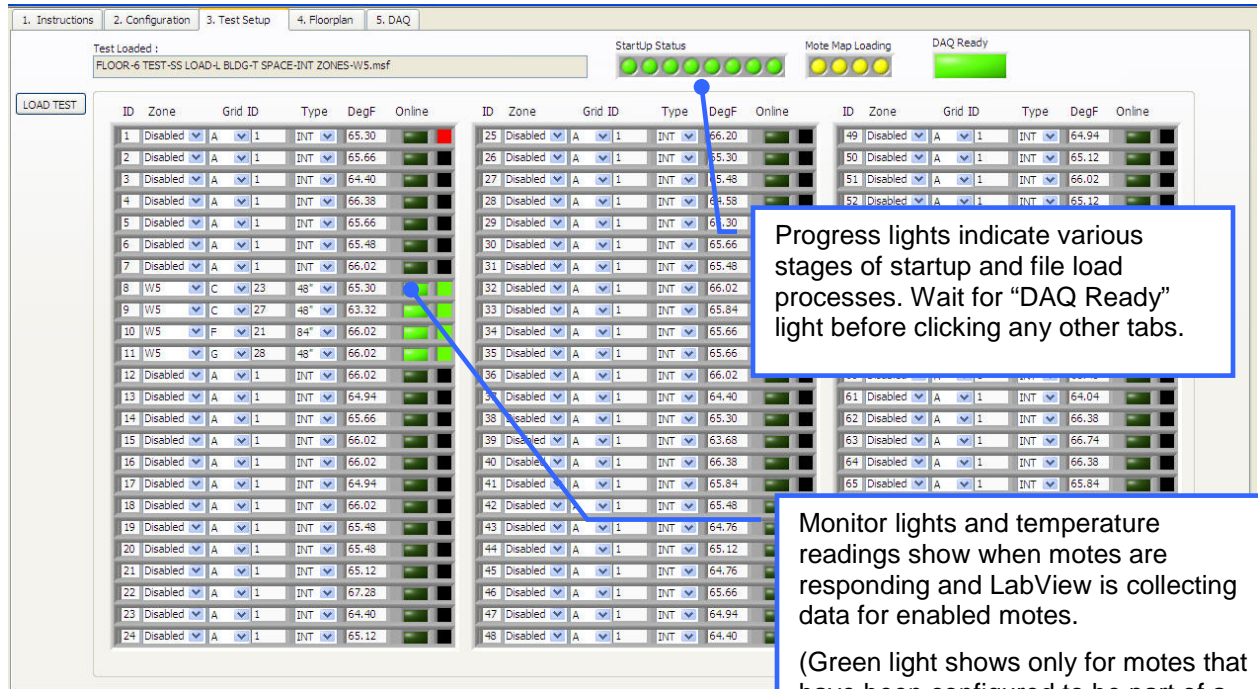
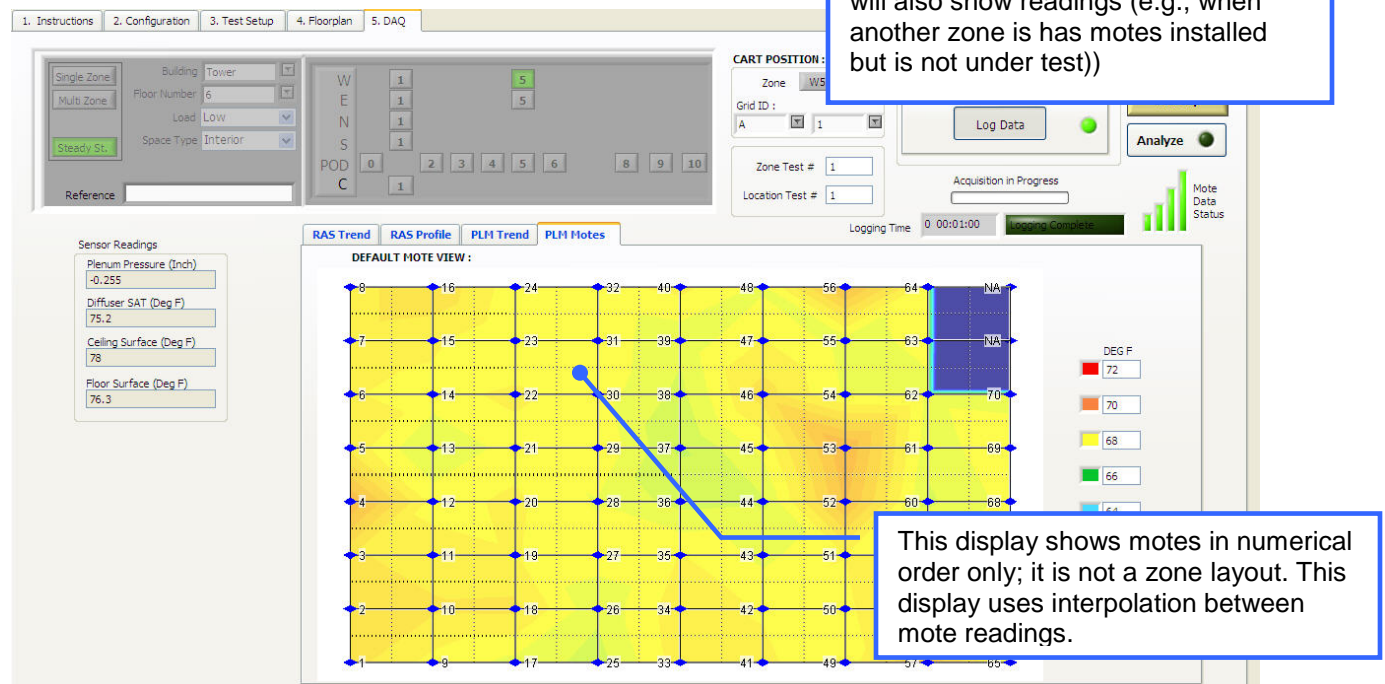

Figure 16: Test Setup screen used for monitoring mote activity
Figure 17: PLM notes default view
- When installing or redeploying notes there are delays while the notes join the network. This process can take anywhere from a few minutes for small number of notes to 20-30 minutes with all 70 notes. This process can be speeded up if the *Reset* button is pressed when a note is deployed. While waiting for notes to join the network, monitor progress at the Test Setup screen or Default Note view in the DAQ program as shown in Figure 16 and Figure 17. Allow at least 45 minutes to an hour after deployment before concluding that a note is non-responding.